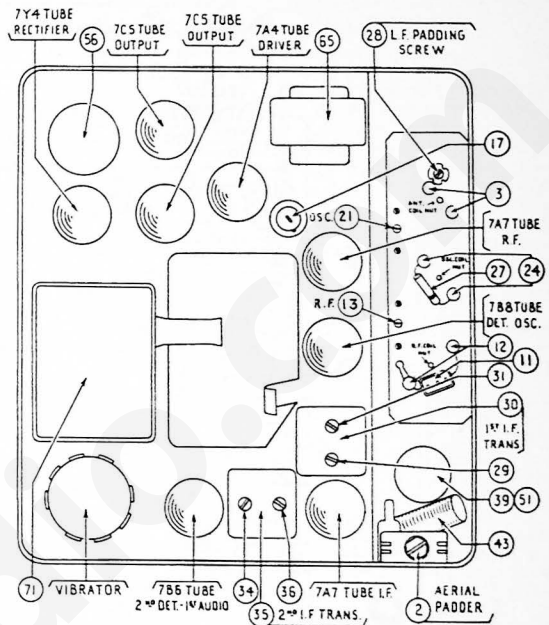

FIGURE 1
NOTE 5—When installing the radio in the car, follow the installation instructions carefully. Tune in a weak broadcast signal between 1200 and 1400 Kilocycles on the control scale. Remove the plug button on the end of the radio and adjust the aerial compensator ② (see Figure 1) for maximum signal.